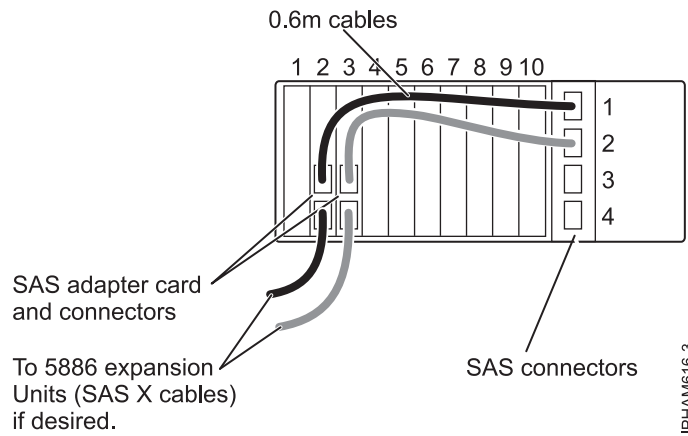

Figure 16. Physical cabling example: One hard-disk-drive partition with 18 disks, dual SAS adapters, and hard-disk-drive partitions switch position 1
<p>One hard-disk-drive partition with 18 disks and dual SAS adapters.</p> <p>This is a multi-initiator high-availability configuration.</p> <p>Dual SAS connectivity to all drives.</p>	<p>For related physical cabling, see Figure 16 on page 16.</p> <p>Operating system: AIX or Linux</p> <p>SAS adapter: Either two (FC 5901) - PCIe Dual - x4 SAS Adapters or two (FC 5903) - PCIe Dual - x4 3Gb SAS RAID Adapters</p> <p>Hard-disk-drive partitions switch: position 1</p> <p>Cables: Two (FC 3688) - SAS cables (AT) 0.6 meter.</p> <p>Note: For AIX and Linux operating systems, this must be a RAID configuration.</p>